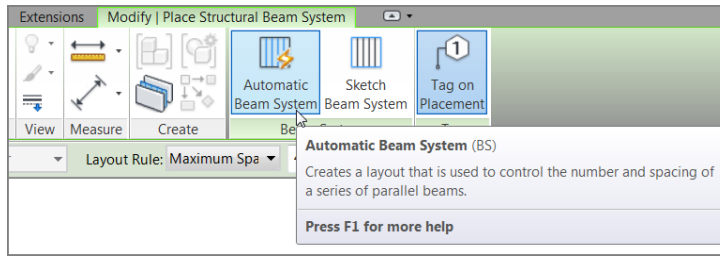

FIGURE 8.40: Selecting the Automatic Beam System and Tag On Placement options
2. Make sure the Automatic Beam System button is picked, as shown in Figure 8.40.
3. Click the Tag On Placement button (see Figure 8.40).